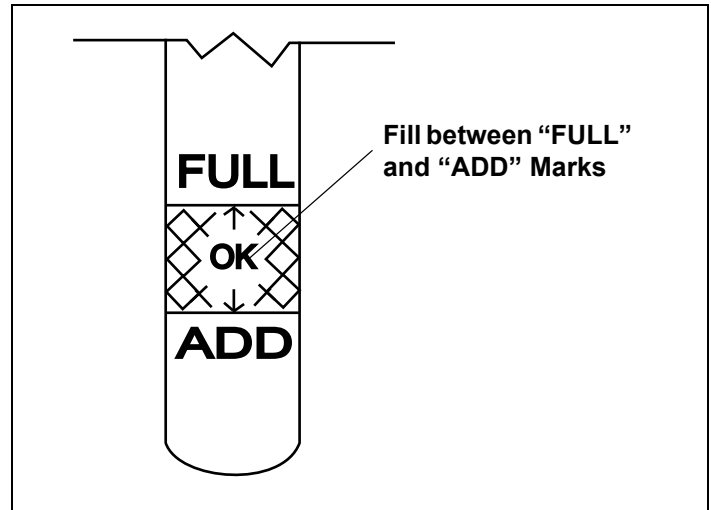

Figure 7. Engine Oil Level
- Keep oil level between “FULL” and “ADD” marks on dipstick. See Figure 7.
4. Unscrew and remove oil fill cap from oil filler tube. Note oil level. If oil reading on dipstick is below "ADD" mark, slowly add oil to reach "FULL" level. See Figure 7.